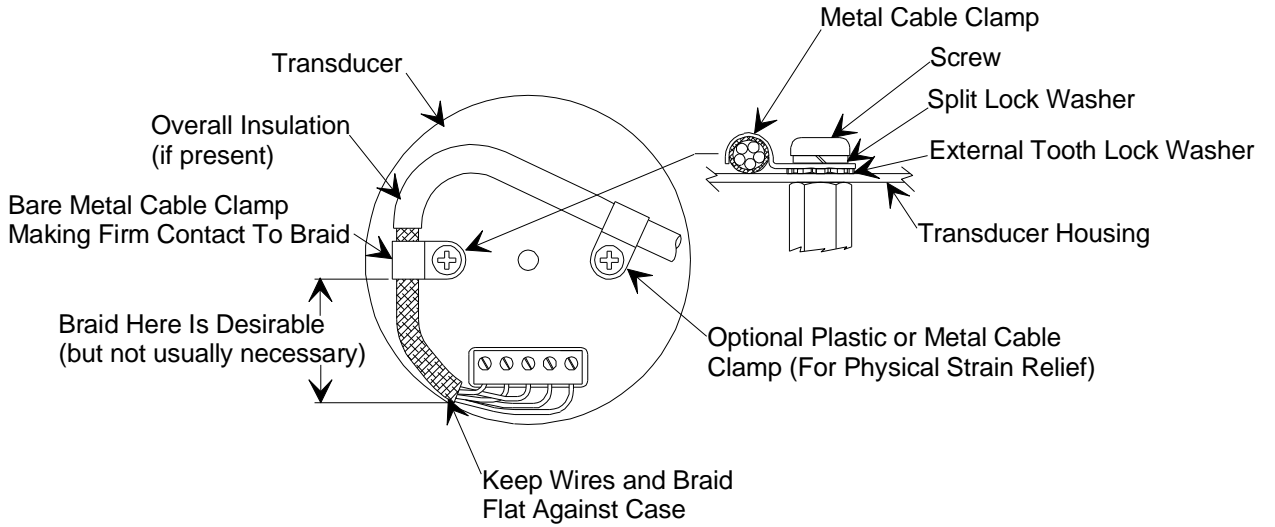

Figure 2: Preferred Method to Connect an Overall Metal Braided Shielded Cable
4. For shielded cables with flying leads at one or both ends, it is important at each such end to ground the shield *before* the wires exit. Make this ground with absolute minimum length. Refer to Figures 2 and 3 on page 23. (A ¼ inch piece of #22 wire may be undesirably long since it has approximately 5 nH of inductance, equivalent to 31 ohms at 1000 Mhz). After picking up the braid's ground, keep wires and braid flat against the case. With very few exceptions, grounded metal covers are not required over terminal strips. If one is required, it will be stated in the Declaration of Conformity or in the instruction manual.